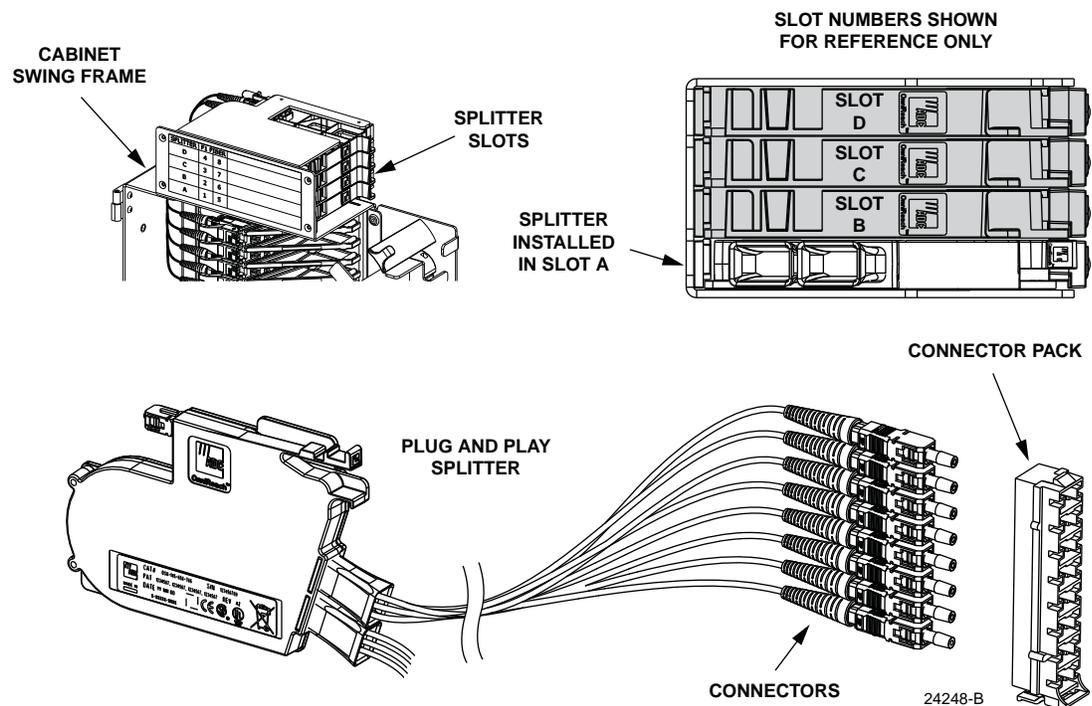

Figure 53. Splitter Module Mounting Slots and Splitter
2. Locate the next available splitter mounting position as shown in Figure 53.